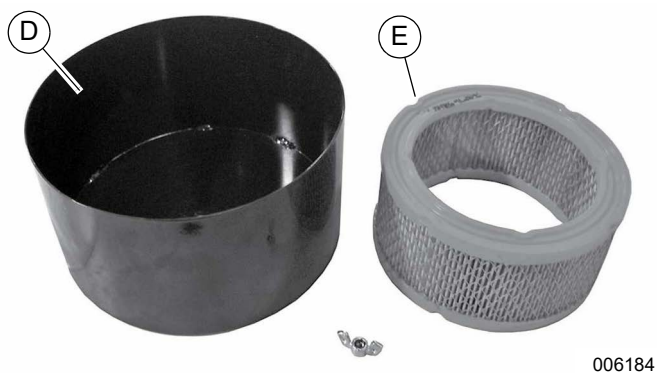

Figure 5-21. Remove Air Filter Element—2.5L Engine
2. See Figure 5-21. Remove air filter element (E) and discard.